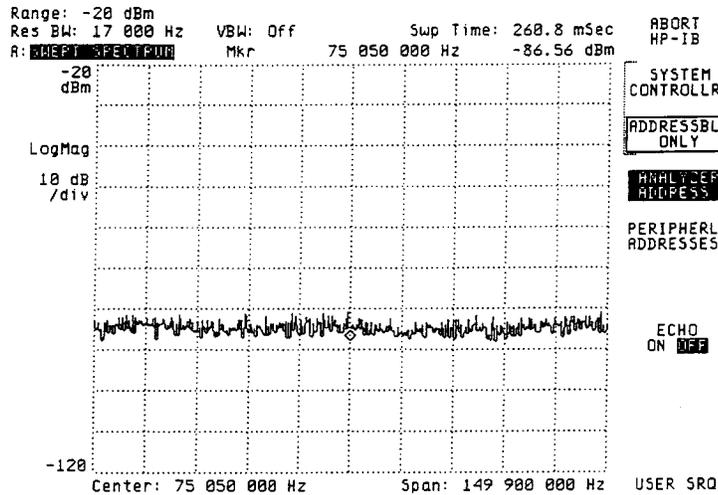

Figure 1-4. HP 3589A Screen After Pressing Local/HP-IB
4. Verify that the analyzer's address is set to 19. The current address setting is displayed when you press the [**ANALYZER ADDRESS**] softkey (see figure 1-4). You can change the address by pressing [**ANALYZER ADDRESS**], then using the numeric keypad and the [**ENTER**] softkey to enter a new value. However, the instructions in the verification procedure assume that the analyzer address is set to 19.